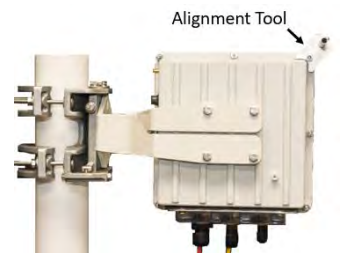

Figure 5-5: Alignment Sight Tool (Integrated Antenna System)
6. In case you bought the optional Alignment Sight Tool, please attach it to either side of the radio enclosure as shown in Fig. 5-5. The Alignment Sight Tool does not eliminate the need for precise adjustment of the antennas, but it shortens the time it takes to correctly point the antenna towards the remote antenna locations.